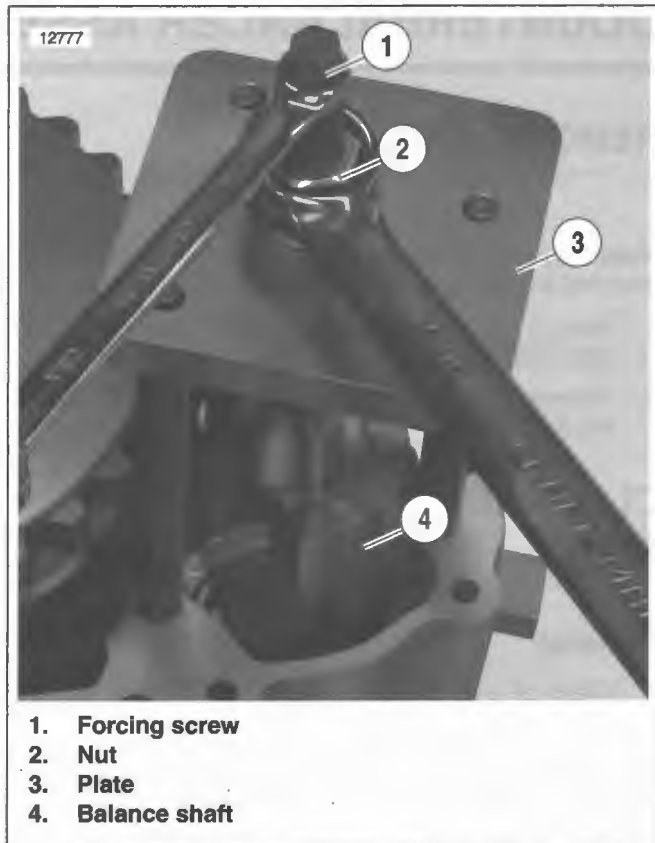

Figure 3-152. Removing Balance Shaft
- See Figure 3-152. While holding forcing screw (1) from turning, turn nut (2) to remove balance shaft (4) and bearing from crankcase.